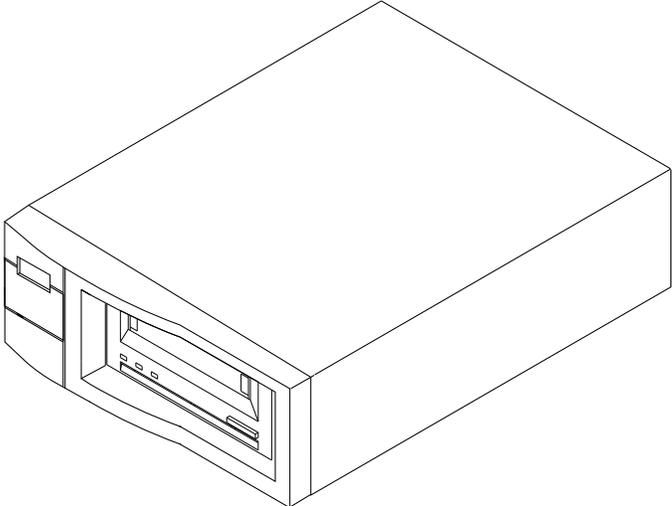

Figure 3. External Drive
- A complete external subsystem that contains the 3.5-inch drive and built-in worldwide power supply (see Figure 3)